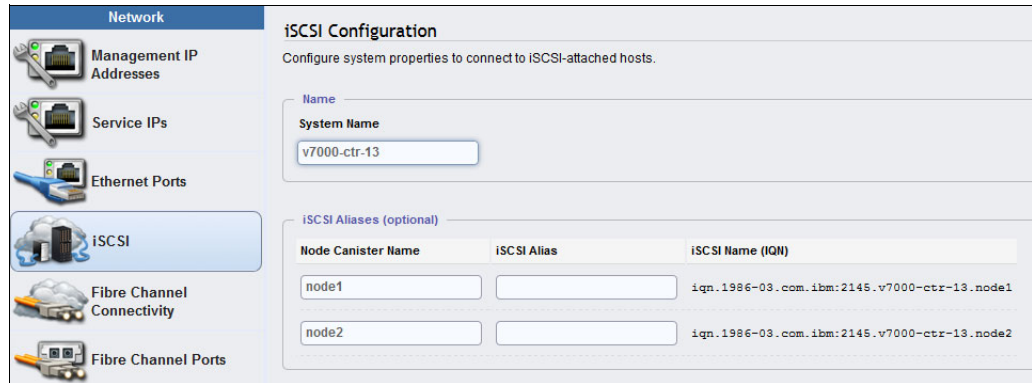

Figure 4-7 Storwize V7000 iSCSI configuration
4. Get the IQNs of the Storwize V7000 cluster by clicking **Settings** → **Network** → **iSCSI**, as shown in Figure 4-7.